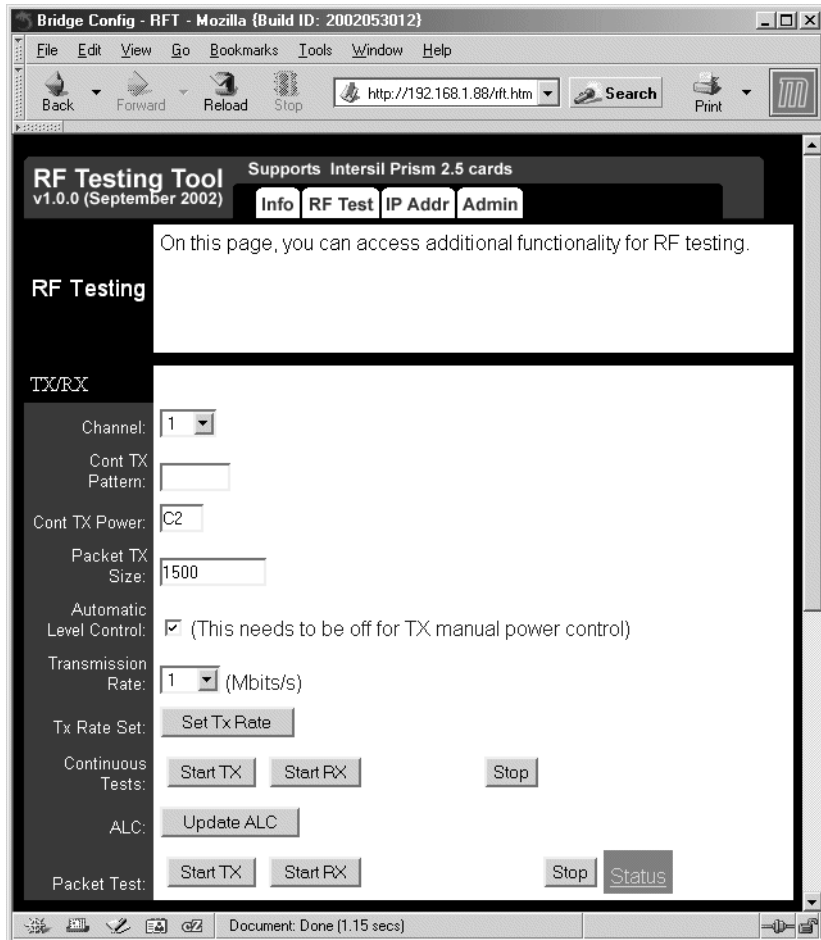

Figure 3-4 RF Testing Web Interface
8. You can now open a web browser at <http://192.168.1.88> and access the test pages, such as the one shown in Figure 3-4.